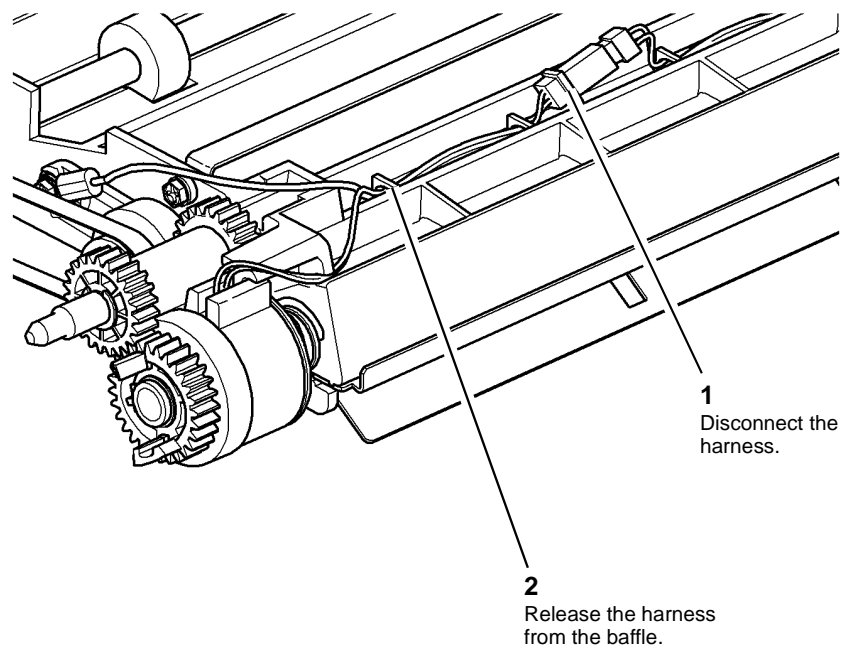

Figure 1 Preparation
3. Prepare to remove the clutch, **Figure 1**.